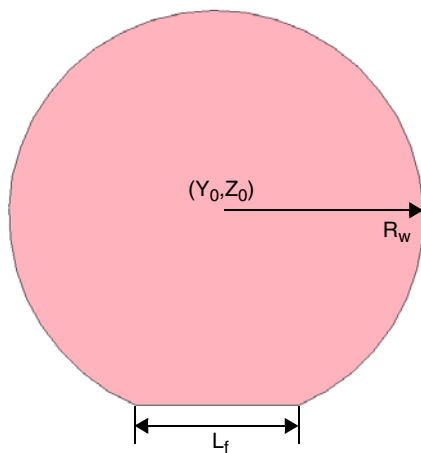

Figure 72 Wafer mask-shaped polygon
- Other parameters give the location and the size of the mask (see Figure 72).